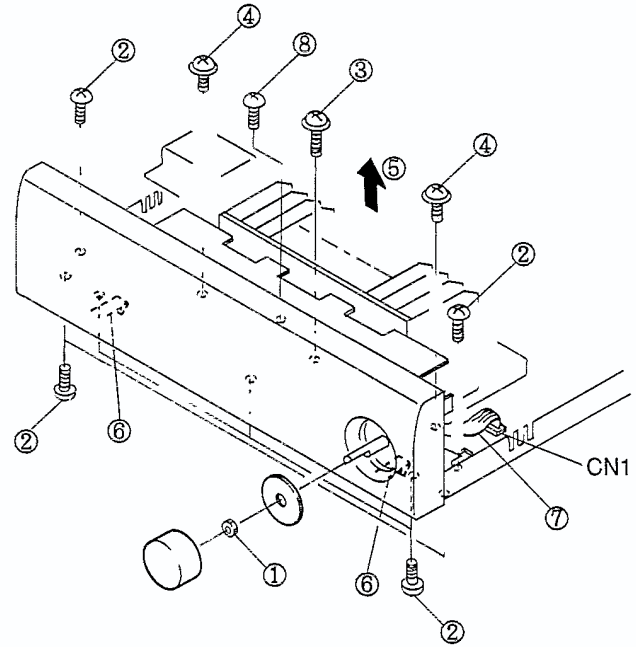

Fig. 1
2. Remove the VOLUME knob and unscrew nut the ① (Fig. 1).
3. Unscrew the fastening screws ② of the front panel (2 upper and 5 lower screws. ).
4. Unscrew the fastening screws ③ (1 screw) and ④ (2 screws) of the RADIATOR.
5. Lift up the RADIATOR (in the direction of the arrow ⑤) approximately 5mm, and remove it from the chassis hook.
6. Remove the lower hooks ⑥ of the front panel (2 places).
7. Slowly remove the front panel together with the RADIATOR. When doing this, be careful so that the flat cable ⑦ form CN 1 does not get caught.
1. Remove the fastening screw ③ of the RADIATOR (1 screw) and ④ (2 screws) and the center fastening screw ⑧ (1 screw) of the POWER AMP ASSY (Fig. 1).
2. Lift up the RADIATOR (in the direction of the arrow ⑤) approximately 5mm, and remove it from the chassis hook.